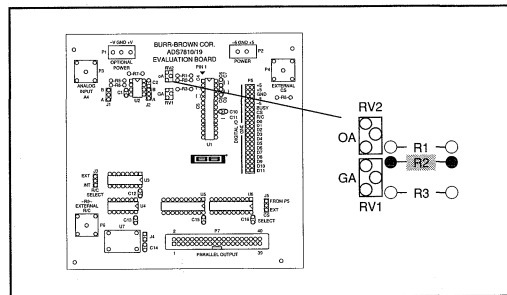

FIGURE 8. Factory Settings for Step 3.
A) To adjust offset, install RV2 (5k Ω) and R1 (4.99k Ω), ground the input, then adjust RV2. See Figure 8 for location of RV2 and R1.
B) To adjust gain, install RV1 (5k Ω) and R3 (221k Ω), then adjust RV1. Do this for +full scale and –full scale. See Figure 8.